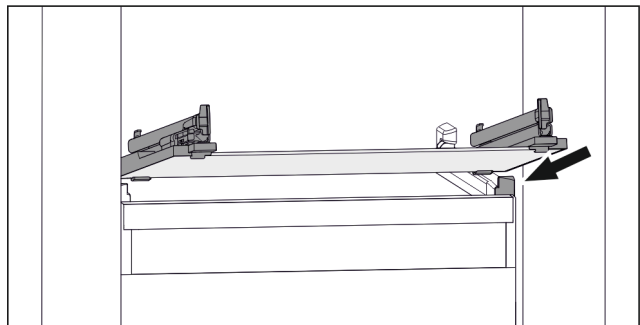

Fig. 99 Example illustration of glass shelf
- ▶ Position glass shelf at an angle behind the stoppers. (see Fig. 99)